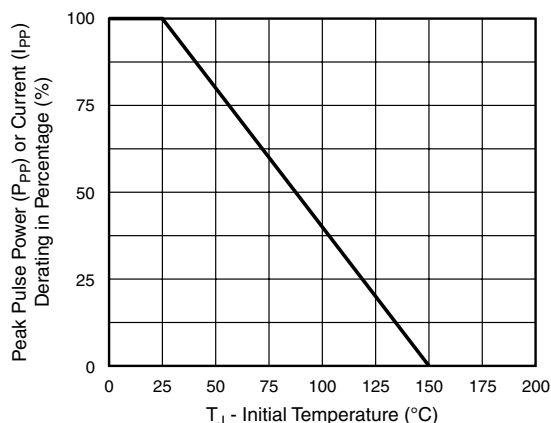
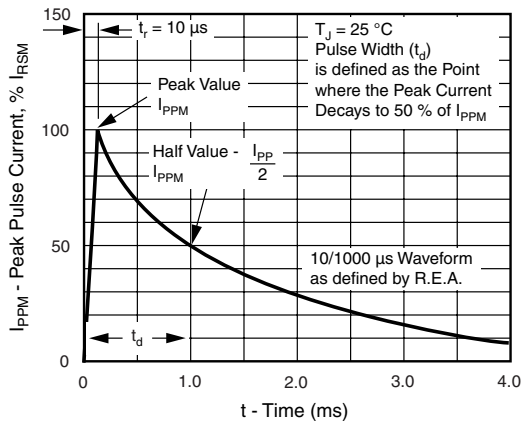

Figure 2. Pulse Power or Current vs. Initial Junction Temperature
Figure 3. Pulse Waveform
(1) Non repetitive current pulse per Fig. 3 and derated above 25 °C per Fig. 2
(2) Peak pulse power waveform is 10/1000 μs